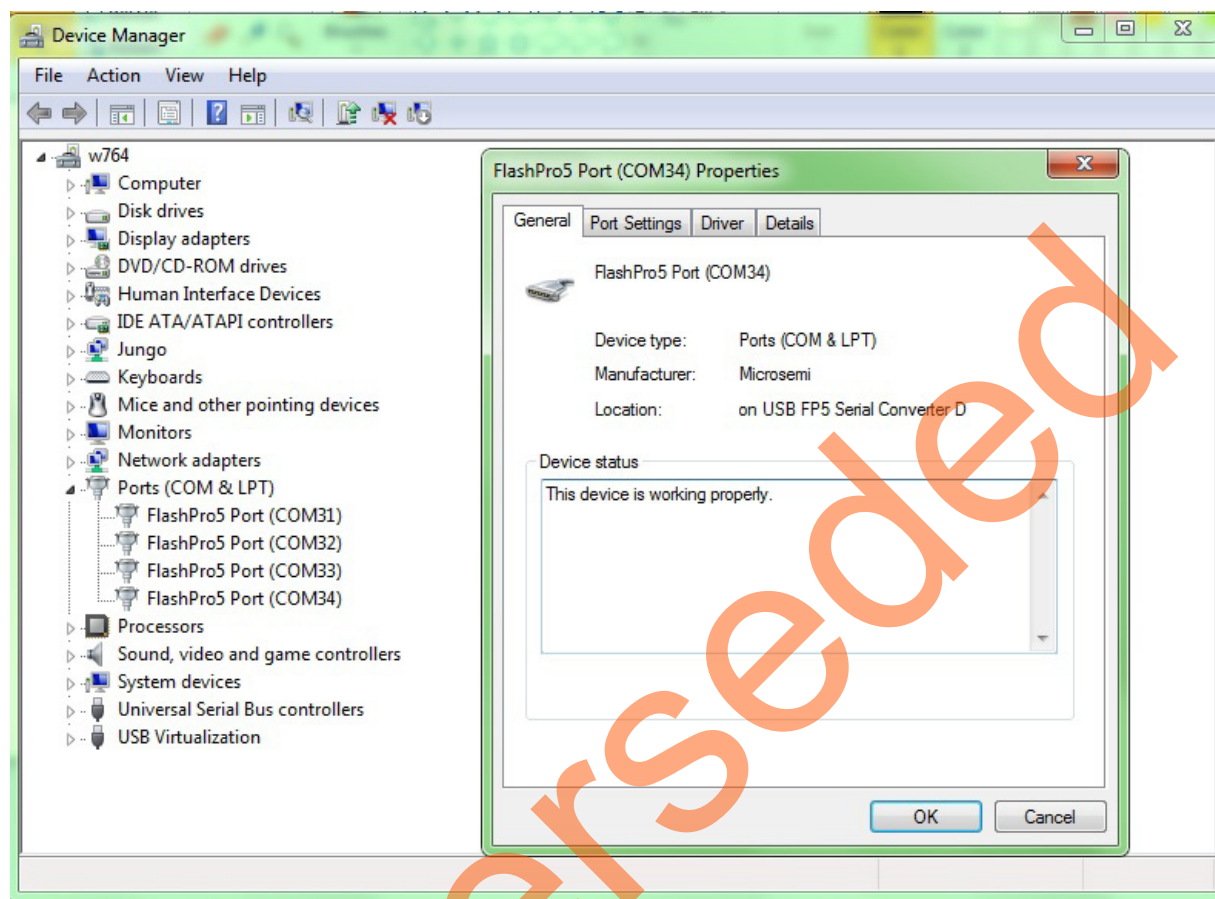

Figure 34 • Device Manager Window
13. Connect the host PC to the J18 connector using the USB min-B cable. The USB to UART bridge drivers are automatically detected. Verify if the detection is made in the device manager, as shown in Figure 34 on page 30.